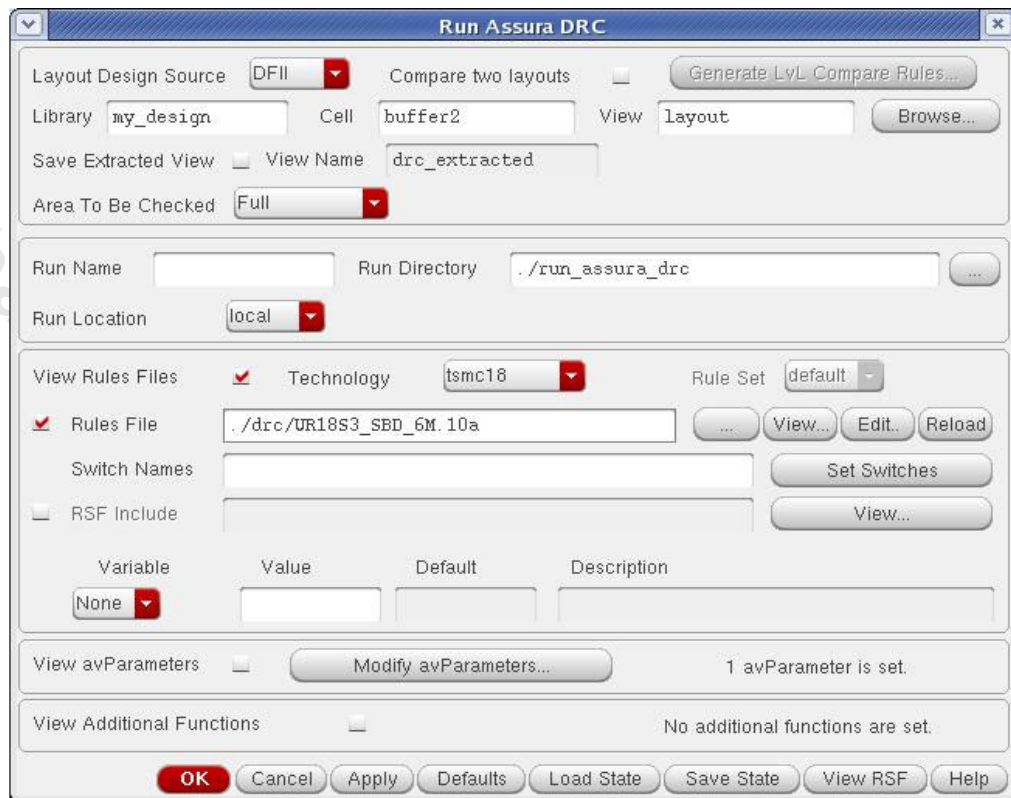

FIG. 23 Assura DRC setup window
2. Fill in the "Assura run directory" and select the "Technology" field to "tsmc18" (Fig. 23) in Assura DRC window. You can also set the Assura DRC switches and other parameters if needed.